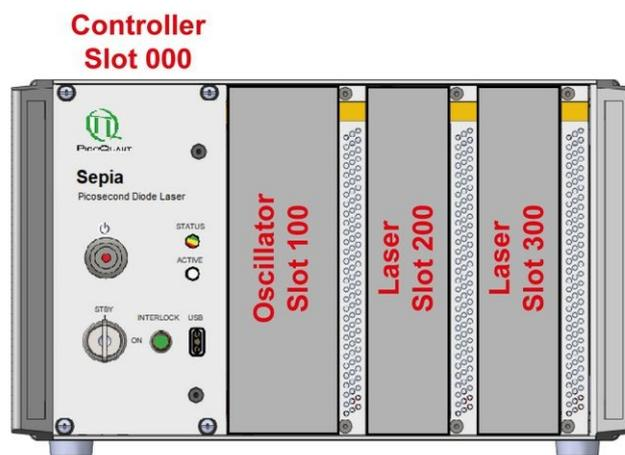

Fig. 21: Compact mainframe PDL 828-S with one slot for an oscillator module and two slots for driver modules
- Compact housing – type PDL 828-S: The compact mainframe has one slot for an oscillator module and two slots for laser driver modules, as shown in Fig. 21.